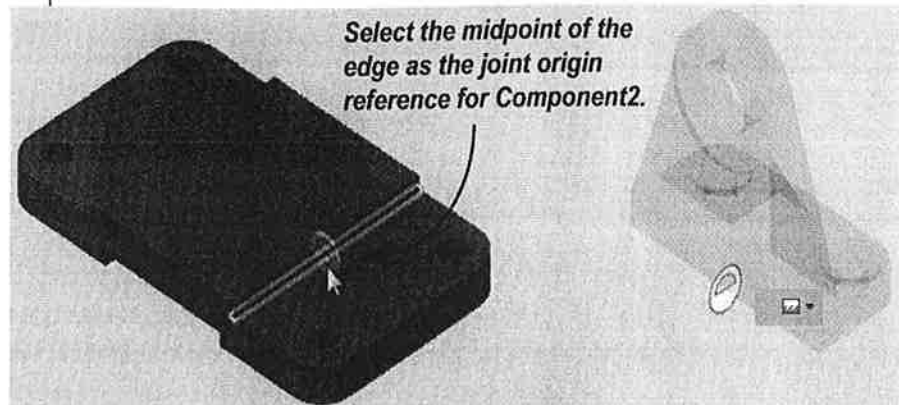

Figure 14–29
9. **Plate** is no longer dimmed in the assembly and the **Component2** field is active. Hover the cursor over the edge shown in Figure 14–29. Once the midpoint of the edge is active as the joint origin, click to select it.